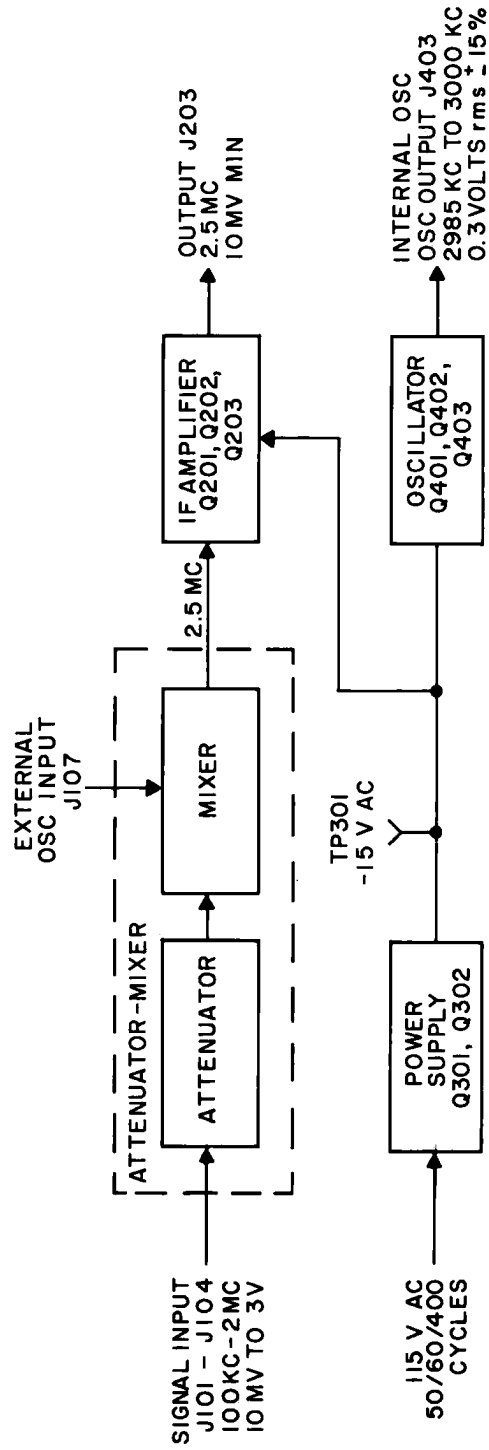

Figure 4-6. Servicing Block Diagram
- b. Figure 4-6. - block diagram showing interconnection of sections and voltages to be measured at critical points.
Figure 4-6 is a servicing block diagram that acts as a guide during troubleshooting. Several